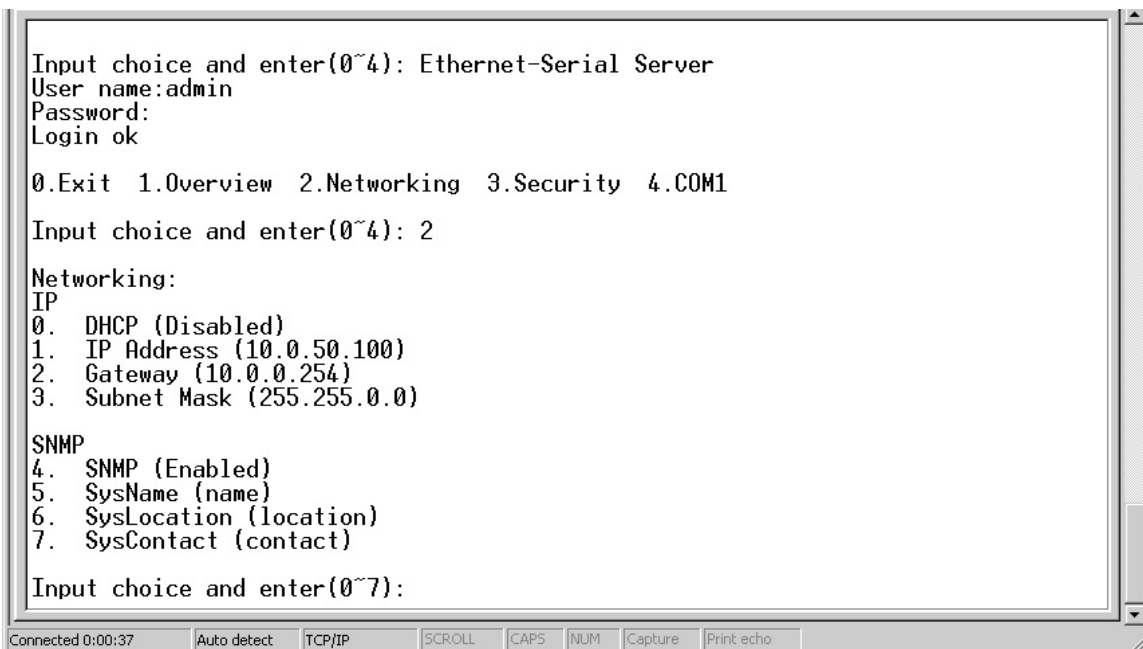

Figure 3.5 Main menu
3. After verifying the password, the following terminal screen appears, as shown below in Figure 3.5.